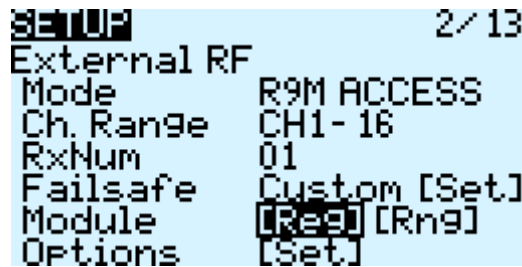

Figure 71: RCU External RF
6. Using the ENT knob, scroll down to EXTERNAL RF. See figure 71.